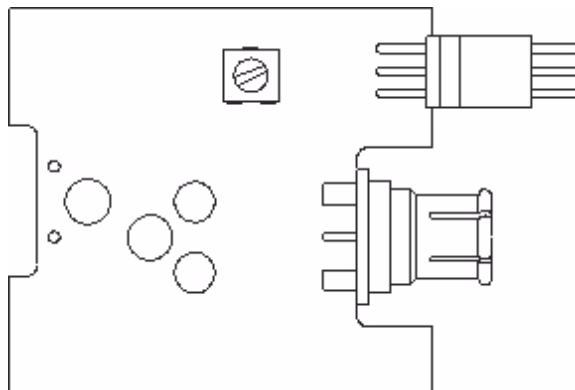

Figure 8-2. Adjustment Locations
6. Adjust **OUTPUT ZERO** on the board until the DMM reads 0 V \pm 100 μ V. Refer to Figure 8-2 for adjustment location.